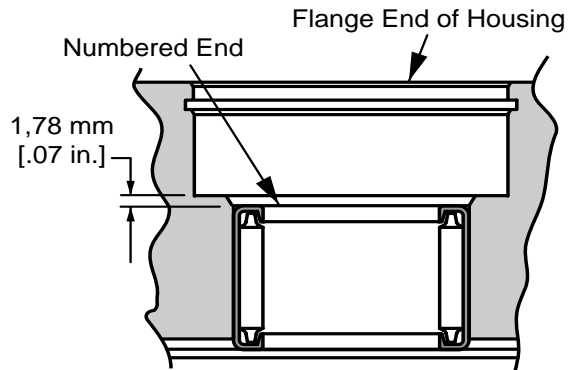

Figure 1-4
- Check the bearing (press fit) in housing. If needles remain in cage, move freely, and setting at the dimension shown in figure 1-4, removal not required.
2 If necessary, press new bearing in housing to dimension shown in figure 1-4 with the numbered end of bearing outward.